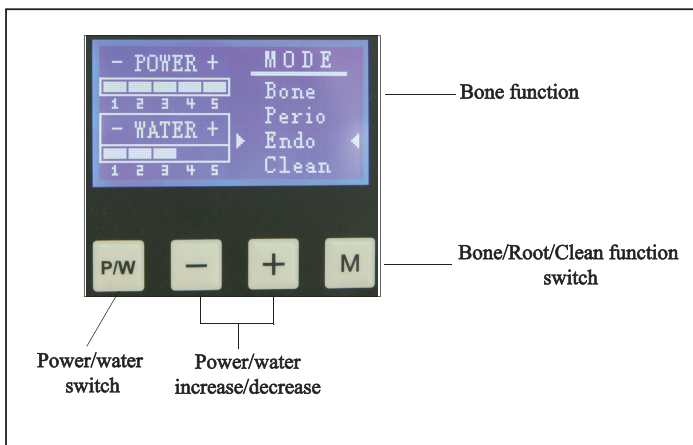

Fig.9
7.2.1 BONE function (Fig.9)
- e) Once the cleaning cycle has been completed, the device exits from the CLEAN function and returns to BONE function (Fig.9);